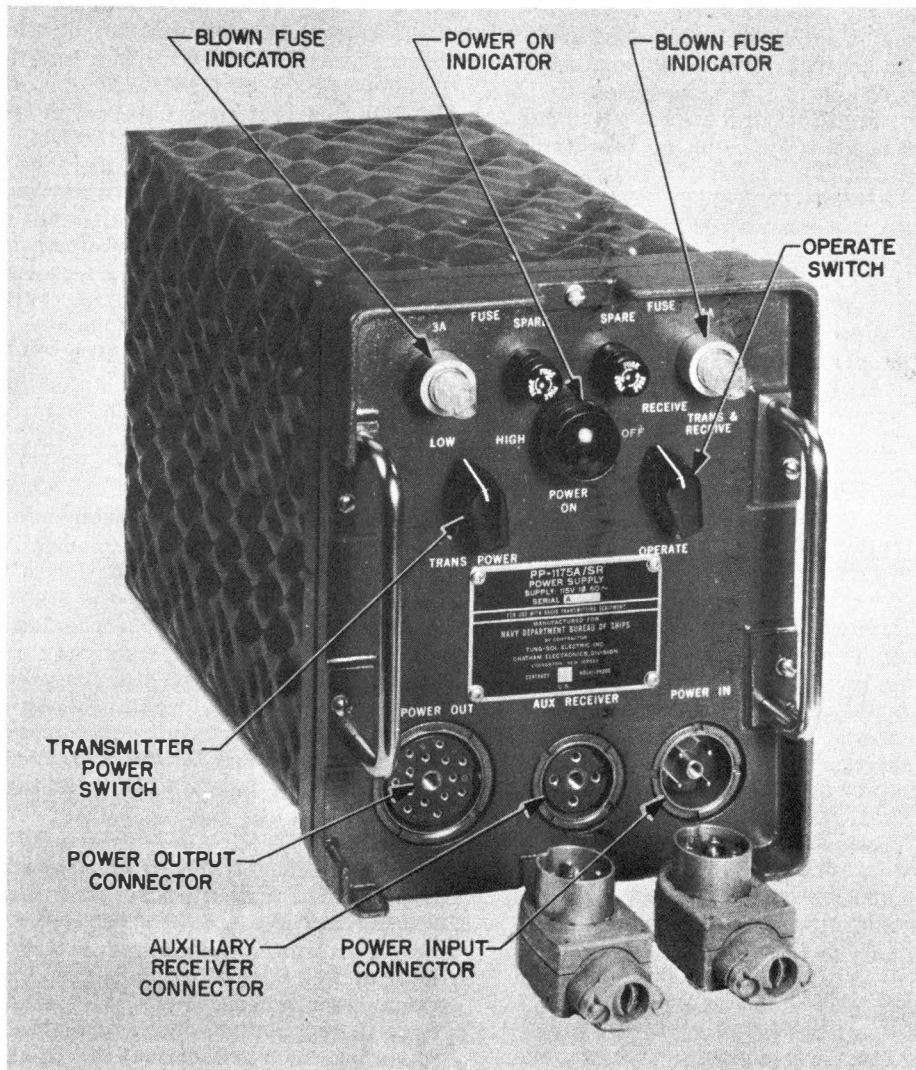

Figure 3-1. Front Panel Controls, Indicators and Connectors
a. DESCRIPTION OF CONTROLS AND INDICATORS. - All controls required for operation of the Power Supply PP-1175A/SR are located on the front panel of the equipment. The various front panel controls and indicators are shown in figure 3-1, and are as follows:
(1) OPERATE SWITCH. - This switch is the main power control switch when operating the equipment directly from the front panel. It controls operation of the power supply to furnish operating voltages for the receiver or receiver and transmitter circuits of the associated equipment.
(2) TRANS POWER SWITCH. - This switch permits connecting the power supply output circuits to furnish operating voltages for high or low-power transmission by the associated receiver-transmitter. This function cannot be controlled from a remote position.
(3) POWER ON INDICATOR. - This indicator lights to indicate that the power supply primary circuits are energized.
(4) BLOWN FUSE INDICATORS. - These indicators light to provide blown fuse indication of the 1A or 3A fuse in the power supply primary circuits.